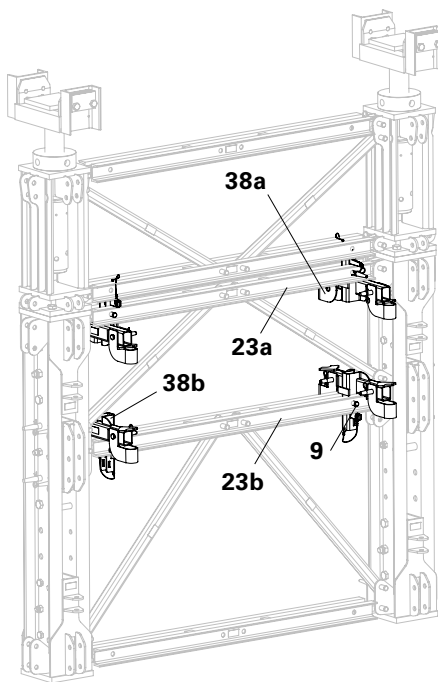

Fig. B6.01a
2. Secure Connectors UP-VST (38) with Fitting Pins \varnothing 21 mm (9) or PERI Wedge K (40). (Fig. B6.01a + B6.01b)
4. Secure Connectors UP-VST (38) with Fitting Pins \varnothing 21 mm (9) or PERI Wedge K (40). (Fig. B6.01a + B6.01b)